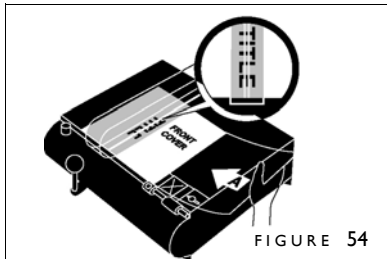

FIGURE 54
3. Slide your cover under the transparent bar until your title is centered under the single silver line (Figure 54). Make sure the bottom of your cover rests against the Left Stop and the Guide Rail. Push the Lever to the right so your cover will not move.